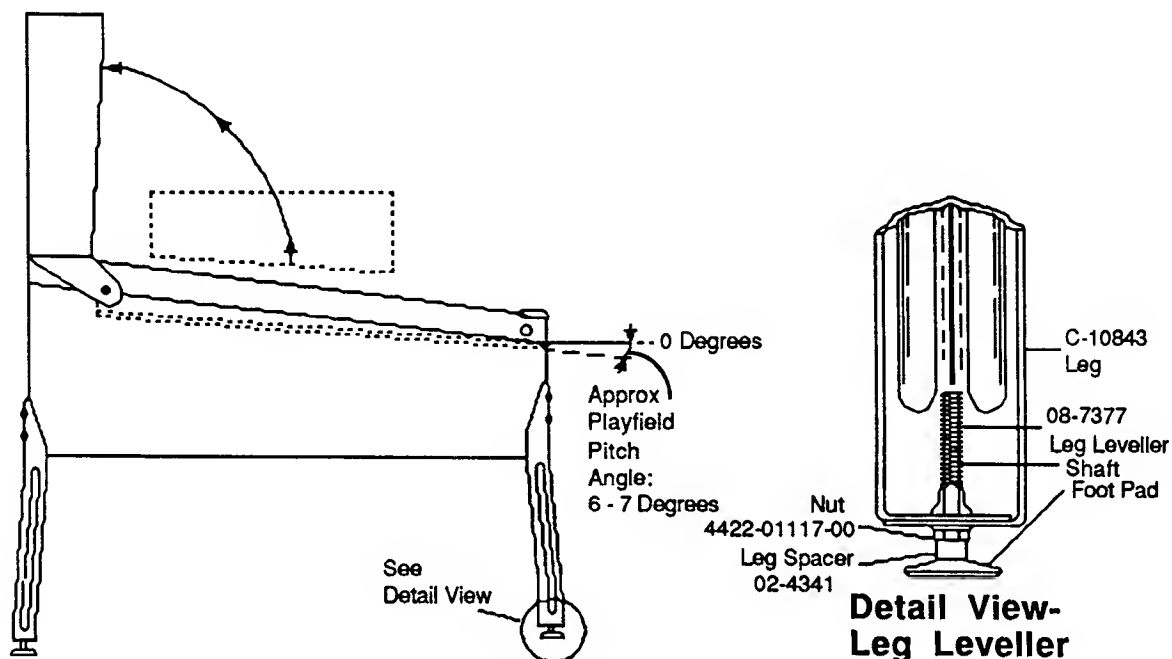

Figure 3. Pinball Assembly, Playfield Pitch Angle, and Leg Leveller Details.
3. Attach the front legs (after installing leg levellers), using leg bolts. See Figure 3 for details.
8. Place a level or an inclinometer on the playfield surface. Adjust the leg levellers for proper playfield level (side-to-side) and playfield pitch angle (incline) of approximately 6-7 degrees. NOTE: It is recommended that these measurements be made ON the playfield, not the cabinet nor the playfield cover glass. Tighten the nut on each leg leveller shaft to maintain this setting, as shown in Figure 3.